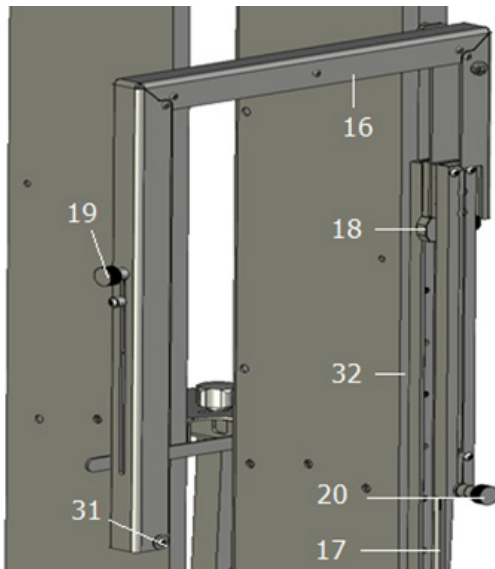

Fig. 12
Transfer the depth measured on the object to which the corner cutter should penetrate into the board using the depth stop (18, Fig. 12) on the scale (32). Mark the position on the insulating board where the wire should be immersed.
To do this, loosen the angle adjustment (20, Fig. 12), slide it up by the desired amount and fix it again.
- Now align the cutting wire with the cut edge of the insulating board: Loosen the angle adjustment (20, Fig. 12) and slide it upwards until the line matches and fix it in place.
- In order to prevent the wire from being tensioned too tightly, it may be necessary to loosen the fixing for mitre cuts (19, Fig. 12) and slide it down a little.